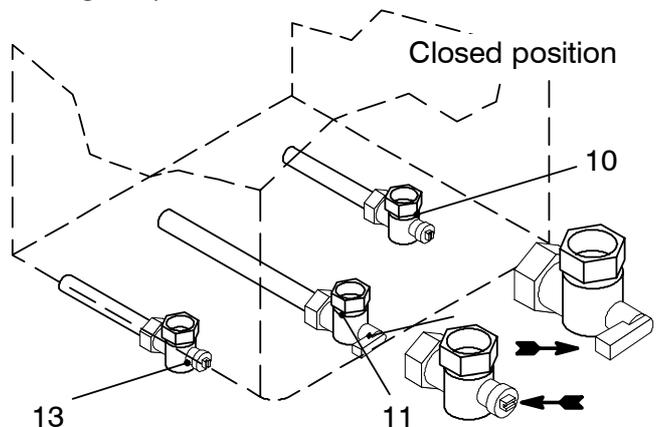

Fig. 9.3
- 1 Turn off the d.c.w. inlet isolating valve (NO TAG in Fig. 9.3) and turn on the hot water taps and any drain cocks.
- 1 Close the c.h. isolating valves (10 and 13 in Fig. 9.3).